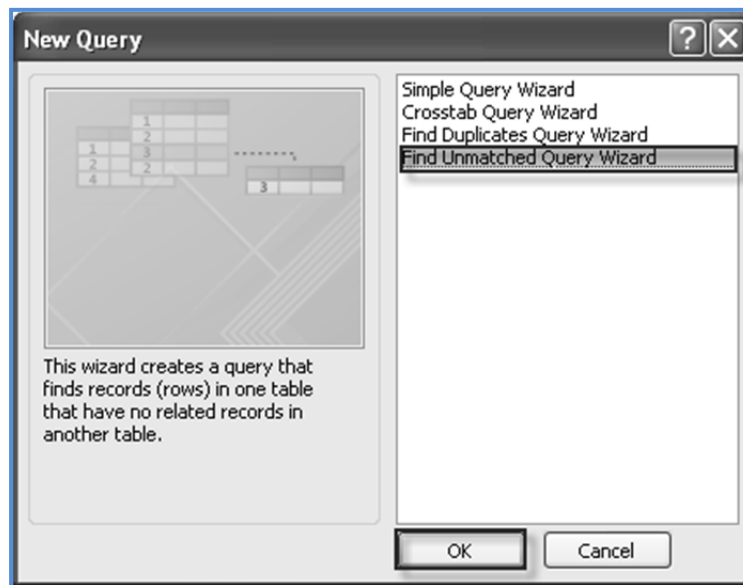

Fig. 1.2.13: Select Find Unmatched Query Wizard
3. Select **Find Unmatched Query Wizard** from the **New Query** window and click **OK**, as shown in Fig. 1.2.13.